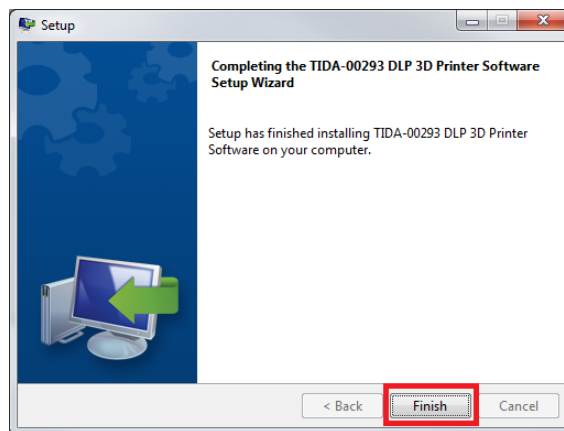

Figure 2-17. DLP 3D Printer Reference Design Installation Completion
8. Once the files have been extracted and installed, click the **Finish** button to close the installer, as shown in Figure 2-17.